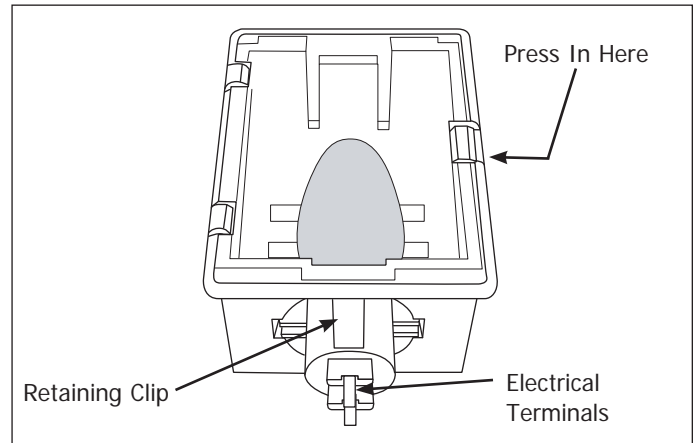

Figure 4-19.
4. Remove the lens by pressing in on the sidewall of the housing until the retaining latch releases, then lift up and remove lens. (See Figure 4-19)